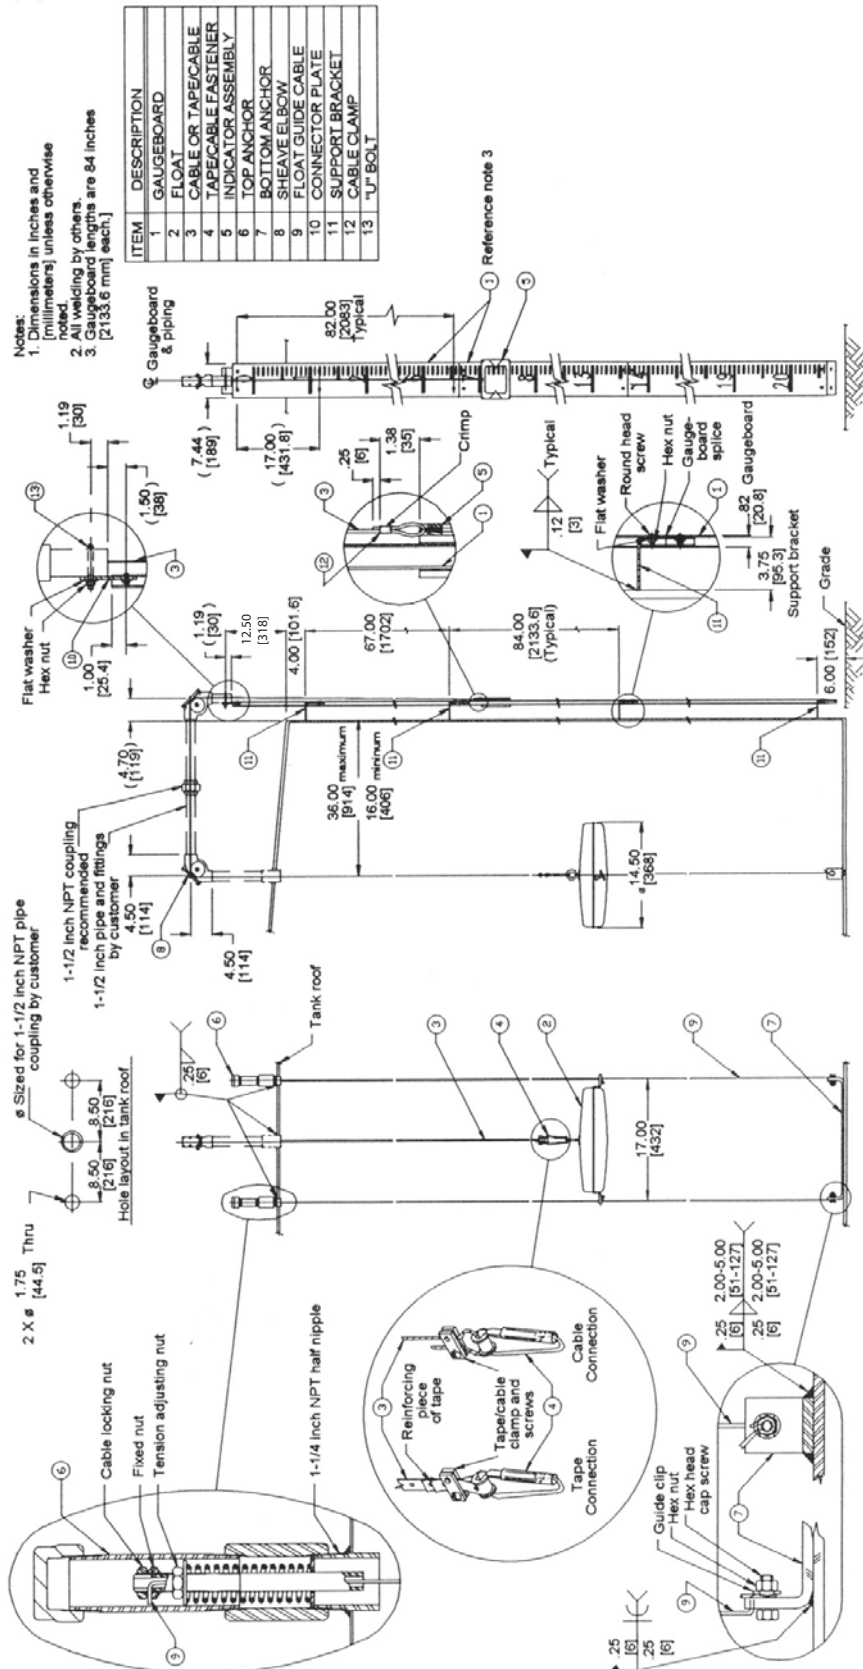
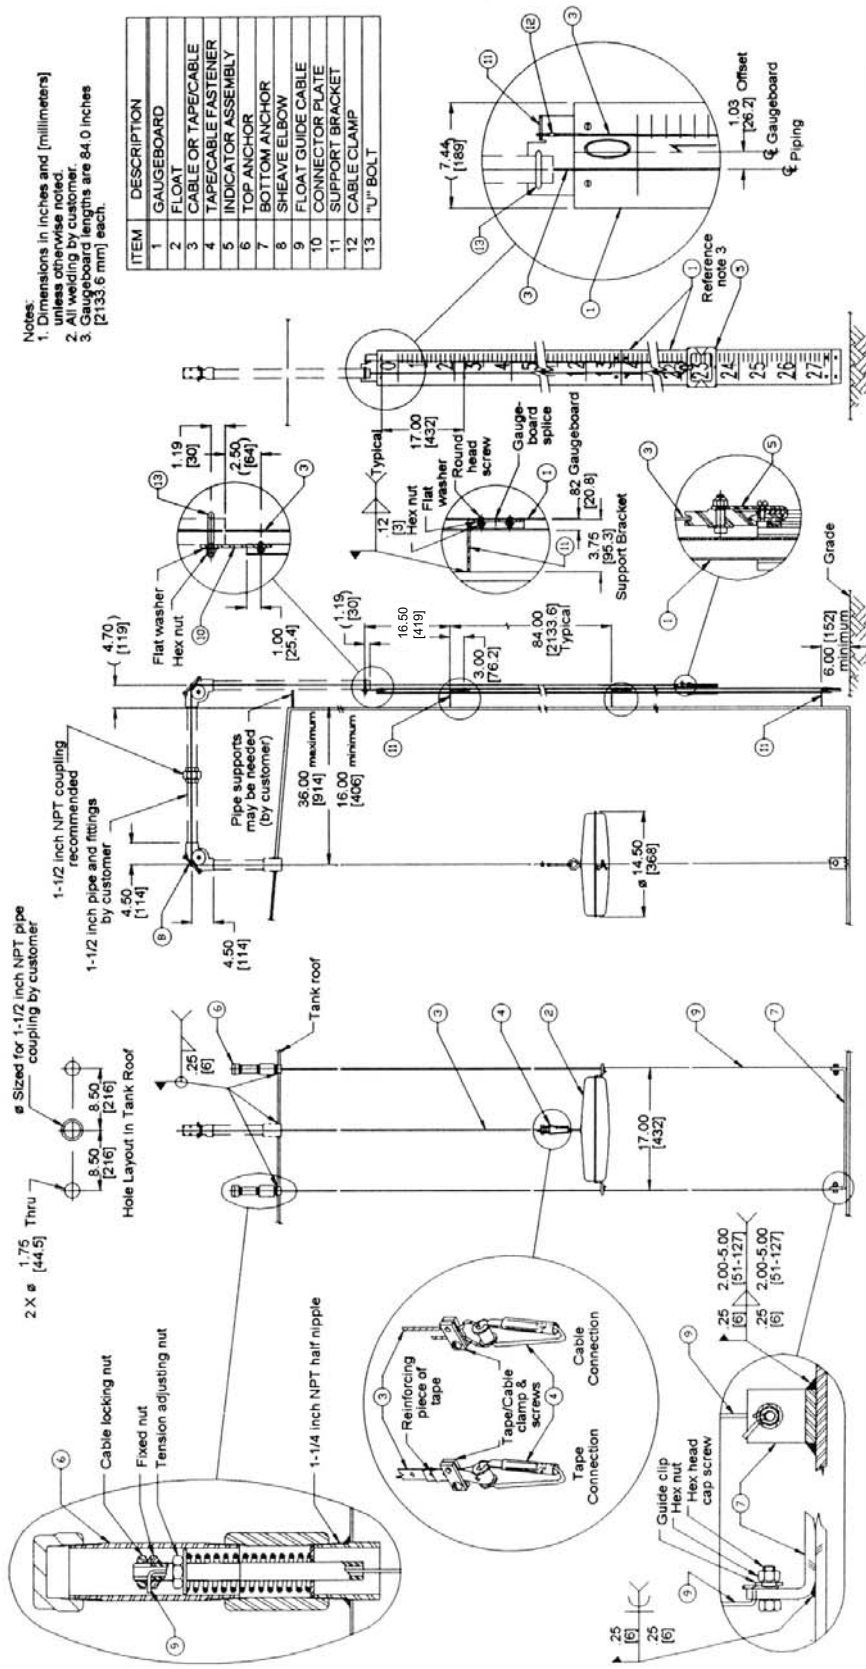

Figure 7: Cone Roof Tank Installation
Figure 8: Half Travel Cone Roof Tank Installation
Refer to Table 6 on page 10. See Figure 7 on page 16 for full travel or Figure 8 on page 17 half travel Liquid Level Indicators.
18. Drop a chalk line from the top of the tank parallel with the plumb line and mark the chalk line on the tank wall. See Figure 7 on page 16.
Board centered with chalked plumb line (see Figure 7 on page 16).
22. Weld the gaugeboard support brackets into position. See Figure 7 and notice the relative position of the top bracket. All other welds are seven feet below the previous weld, except for the last one at the bottom of the tank, which is six inches [152 mm] above the grade line.
23. Use the “U” bolt and nuts (see Figure 7) to attach the gaugeboard connector to the pipe. The pipe should extend one inch [25.4 mm] below the “U” bolt.
25. Attach the remainder of the sections to the bottom of the tank. Make certain that each section is centered on the chalk line (see Figure 7).
29. Temporarily attach the tape/cable to the float with the furnished fastener (see Figure 8 on page 17). Feed the other end of the indicator cable over the sheave in the elbow and make sure that it is seated on the pulley. Final attachment to be made at initial calibration.
Slip the indicator over the gaugeboard. Put the cable crimp on the end of the cable, then thread the cable through the hole in the indicator. Loop the cable on the outside back through the cable crimp and temporarily tape it to the crimp (see Figure 7 on page 16).
Remove one side channel from the indicator. Position indicator on the gaugehead and reassemble the side channel. Thread the cable through the pulley on the indicator. Put the cable crimp on the end of the cable. Thread the cable through the hole in the gaugeboard connector plate. Loop the cable on back through the cable crimp and temporarily tape it to the crimp (see Figure 8 on page 17).
With the float just touching the bottom of the tank, water will be at the float equator (water line). Use the float connecting clamps (see Figure 7 on page 16) to make the final adjustment, then trim excess tape or cable at the float end, leaving some additional tape or cable for future adjustment needs.
29. Temporarily attach the tape/cable to the float with the furnished fastener (see Figure 7 on page 16). Feed the other end of the indicator cable over the sheave in the elbow and make sure that it is seated on the pulley. Final attachment to be made at initial calibration.